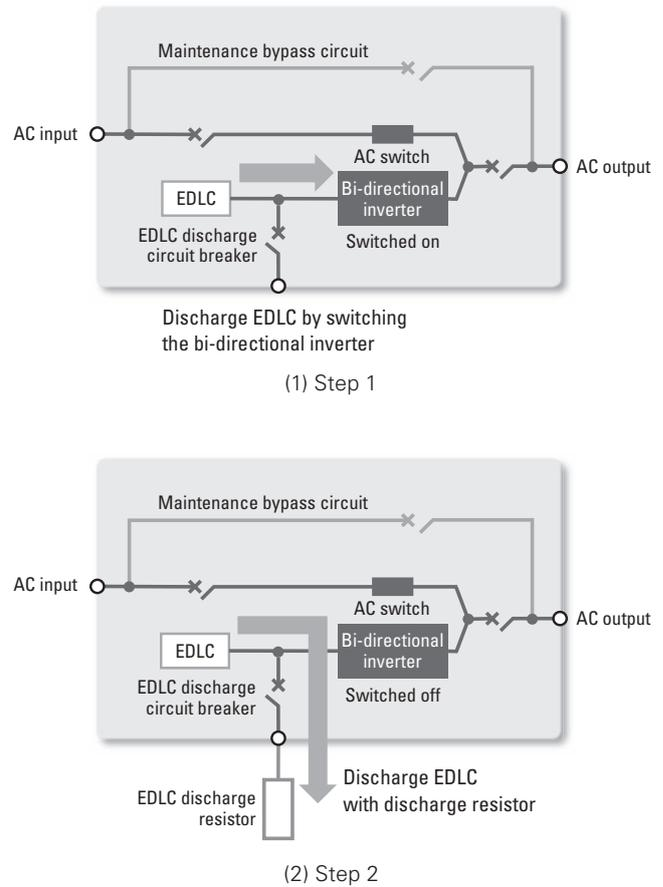

Fig. 3 Self-discharge of EDLC
EDLCs have a service life of about 10 years, so they would be subject to replacement. However, similar to lead-acid batteries, an EDLC remains charged with a certain voltage stored even after the power is disconnected. Replacing the EDLC in this state could cause an electric shock or short circuit. To prevent this and ensure safe EDLC replacement, we added the new models with a new function for discharging the EDLC. The EDLC discharge proceeds in two steps. The first step is shown in Figure 3 (1). This requires consuming the charge that remains in the EDLC so that it falls below a dangerous level (60 VDC). This is done by using the bi-directional inverter's no-load loss that results from switching the bi-directional inverter. The second step is shown in Figure 3 (2). This requires connecting a resistor to the EDLC discharge circuit breaker after stopping the unit, and then turning on the circuit breaker to discharge the EDLC to almost no voltage. After these steps, technicians can safely and quickly replace EDLCs and perform necessary maintenance work.